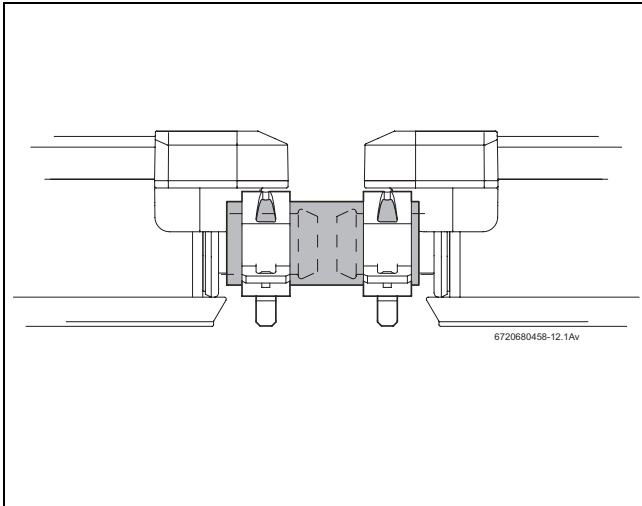

Fig. 46 Solar hose with secured hose clips
- Secure solar hoses and dummy plugs to collector connection with a hose clip (→ Fig. 46).